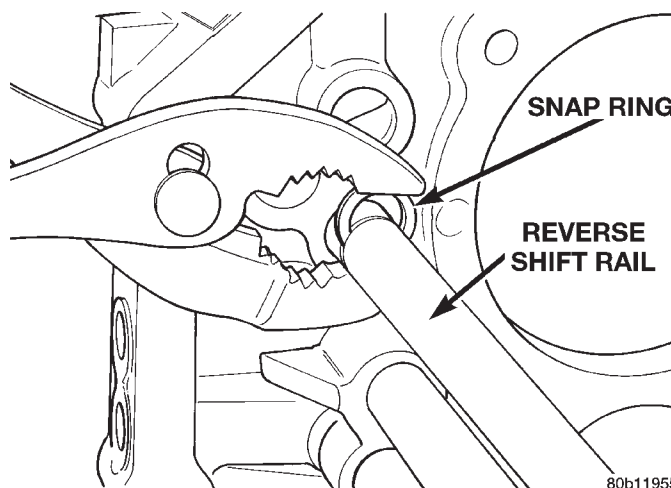

Fig. 82 Install Reverse Snap-ring
- (10) Install snap-ring onto reverse shift rail (Fig. 82).